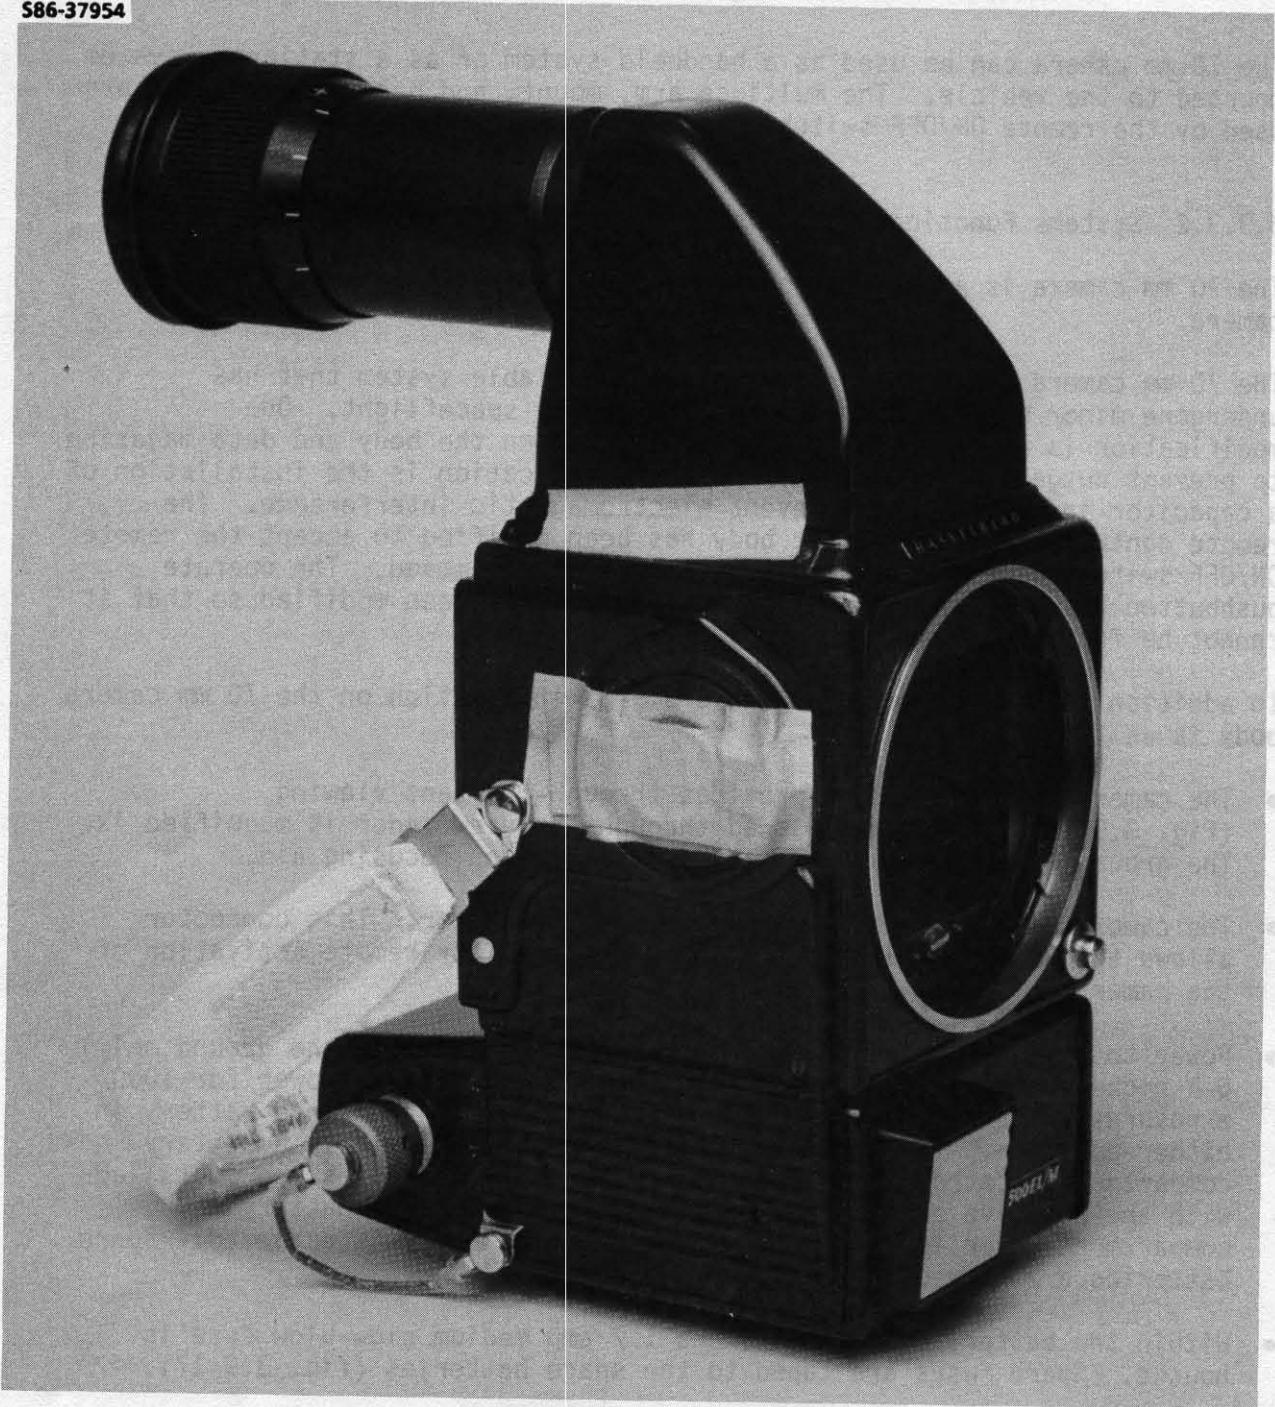

Figure 3.9-15.- Viewfinder.
- The camera body viewfinder provides through-the-lens viewing (fig. 3.9-15). The image viewed through the viewfinder is magnified 4X. The ground glass is equipped with a split-screen focusing aid.